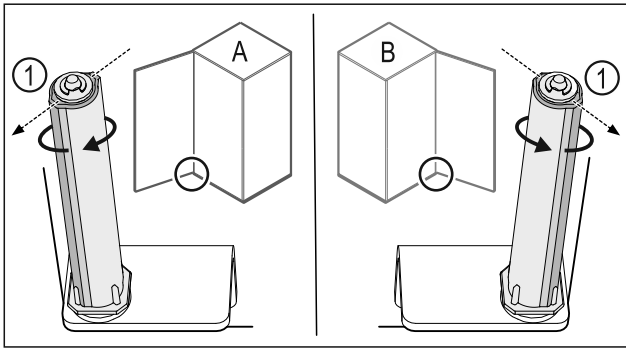

Fig. 42 Left stop (A) / right stop (B)
- Turn the locking system against the resistance until the bar on the locking system Fig. 42 (1) is pointing outwards.